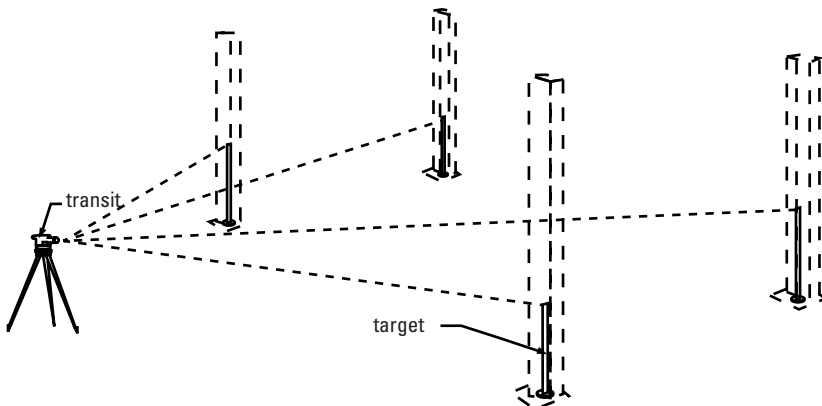

Fig. 2
- B. Place target at column positions and record readings, Fig. 2.